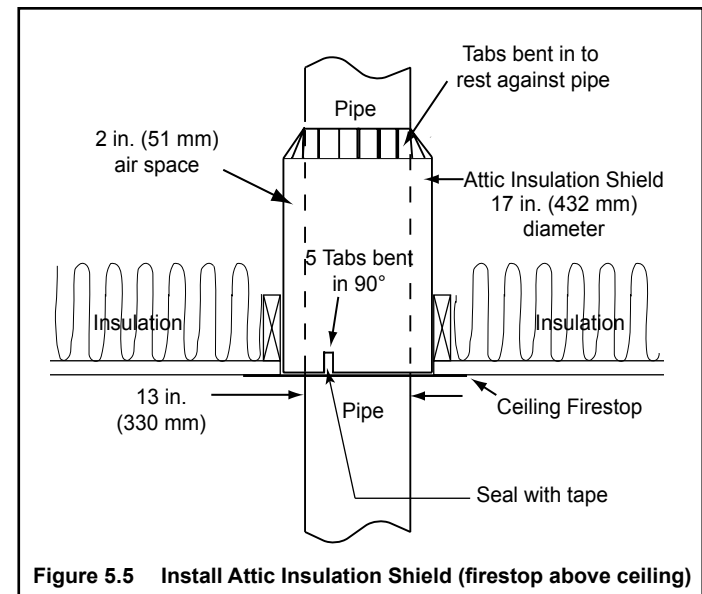

Figure 5.5 Install Attic Insulation Shield (firestop above ceiling)
**Note:** The ceiling firestop MUST be nailed to the bottom of the ceiling joists EXCEPT when the space above is uninsulated and the attic insulation shield is not being used (see Figure 5.5). When the attic insulation shield is used the ceiling firestop may be above or below the joist of an insulated ceiling.